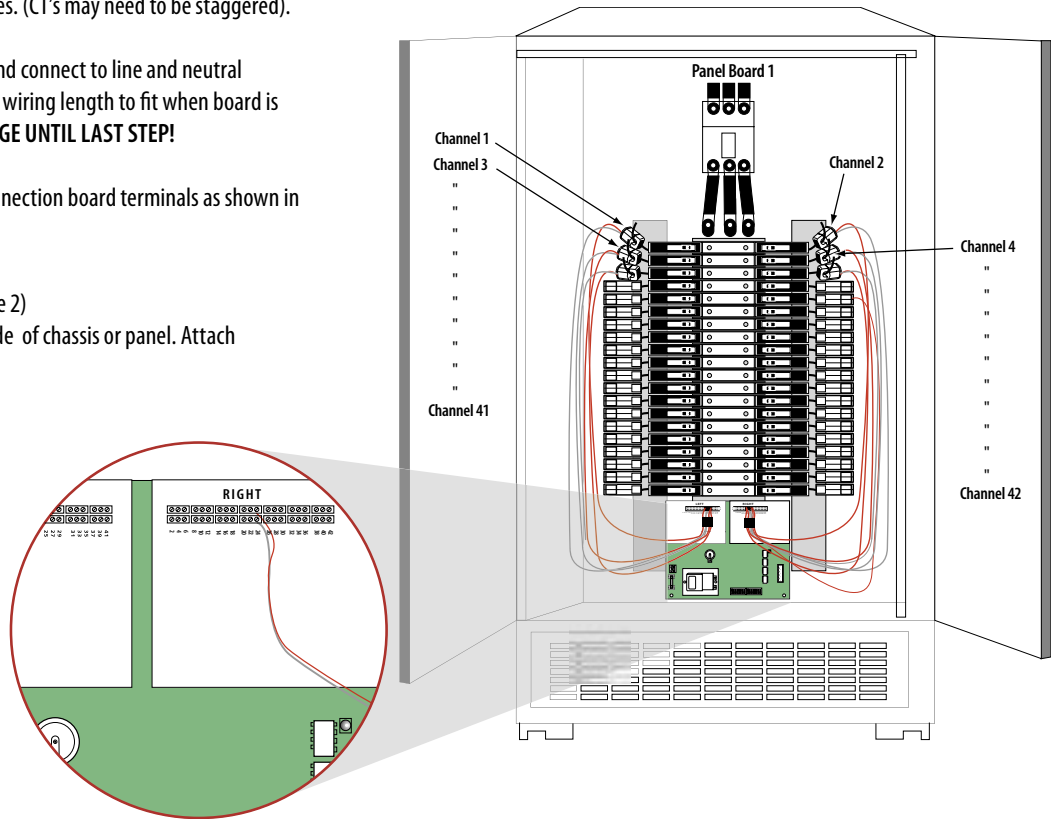

Figure 2
4. Acquisition Board Installation (see Figure 2)